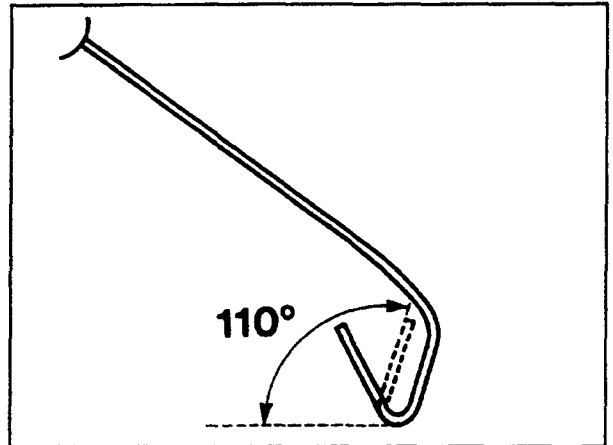

Figure 14
7. The inside edge of the front fenders must be rebent to an angle of 110° over the complete wheel cutout (A, Figure 14) to accommodate the wider wheels and tires.